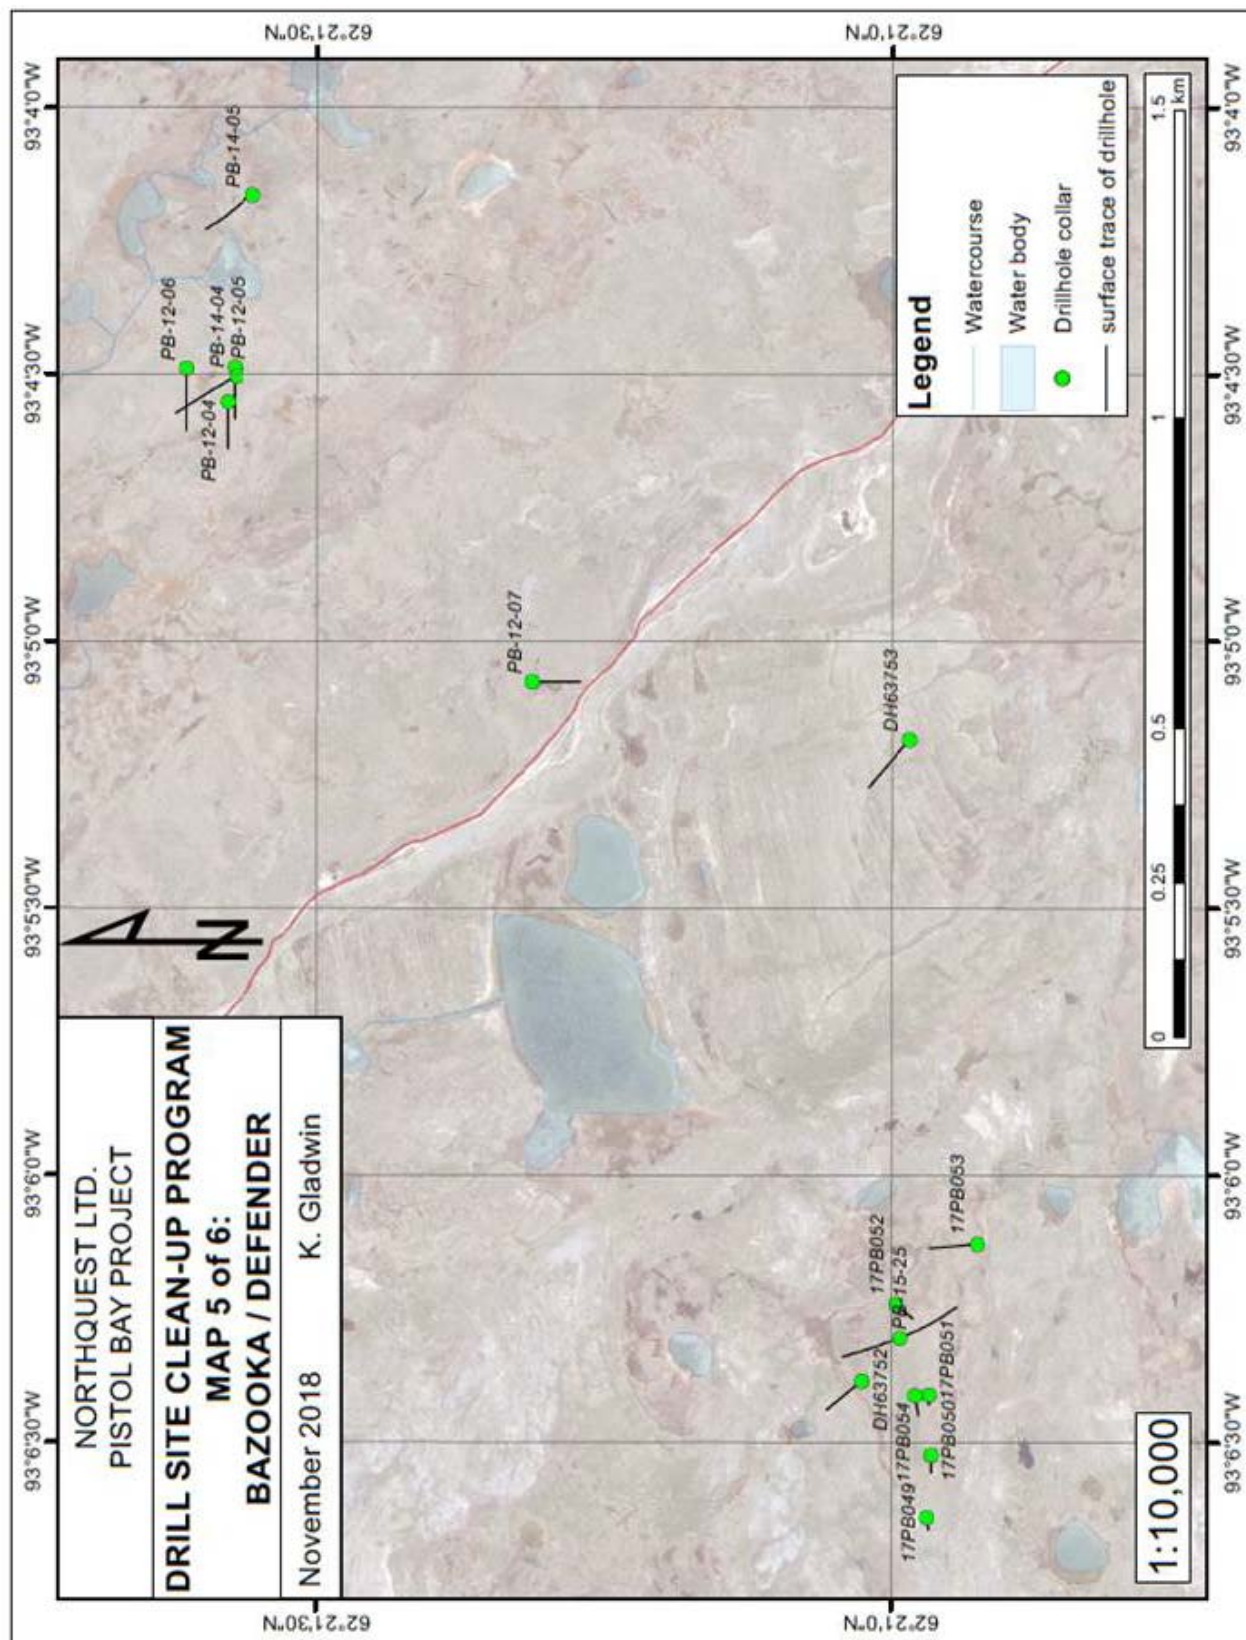

Figure 12. Map illustrating the Bazooka and Defender Prospect drill sites.
- Figure 12. Map illustrating the Bazooka and Defender Prospect drill sites.
| • Defender and Bazooka | Drill holes illustrated on Figure 12 |